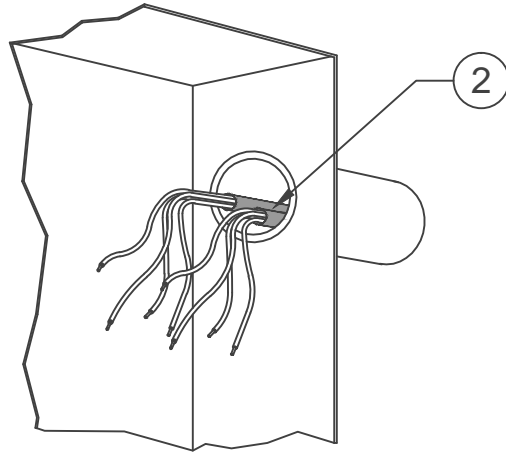

FIGURE 1
2. (SEE FIGURE 1) REMOVE OVERALL OUTER CABLE JACKET AT ENCLOSURE ENTRY POINTS. [EXCLUDING LAN DROP COMMUNICATION CABLE, PHONE LINE, ETC]